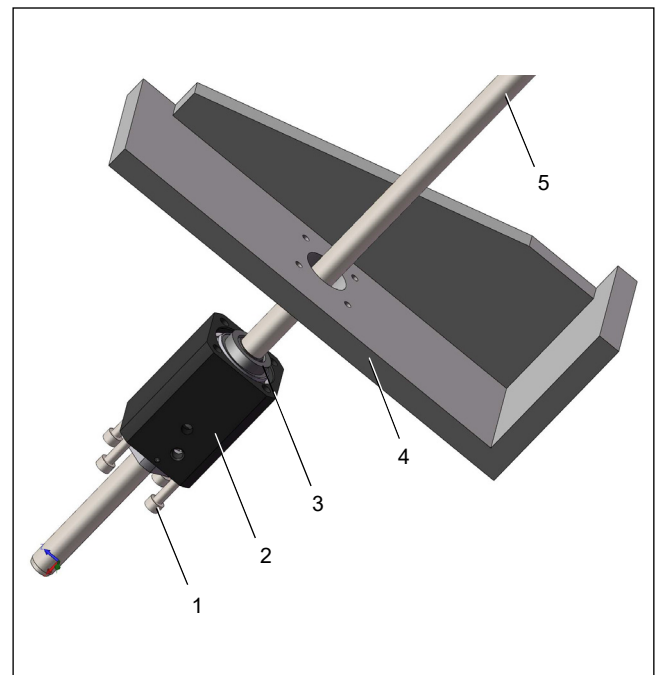

Fig. 4: Application example for mounting with separate rod
The Locking Unit KFPA, type S is to be attached with the mounting side (3), Fig. 4: to the machine element (4), Fig. 4:.